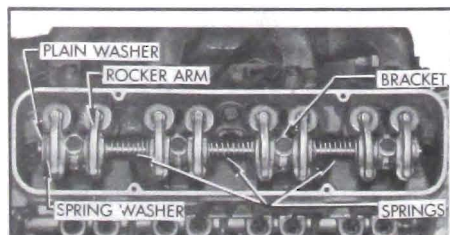
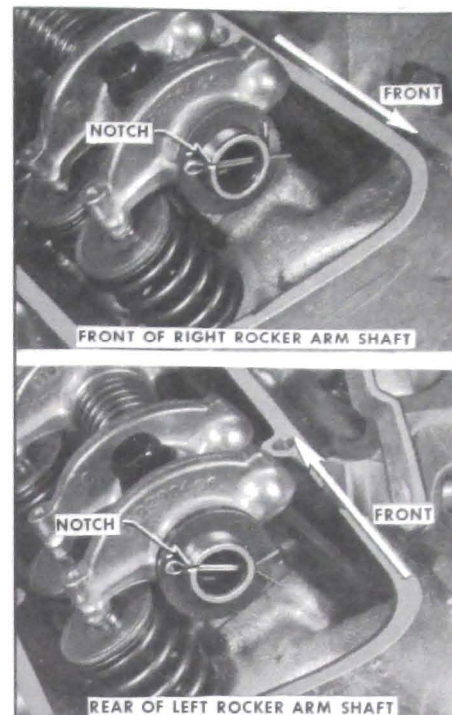

Figure 2-27—Rocker Arm Shaft Assembly (V-8 shown)
Figure 2-28—Rocker Arm Shaft Installation
4. Assemble springs, rocker arms and brackets on shaft as shown in Figure 2-27. Take care that the assembly for the right side has the notch in the shaft forward and the left side has the notch to the rear. See Figure 2-28.
6. Install bolts with plain washers through the brackets and shaft so the notch in the right assembly is up and to the front and the notch in the left assembly is up and to the rear. See Figure 2-28.
3. Check notch on one end of rocker arm shaft. Be sure it is positioned as shown in Figure 2-28.